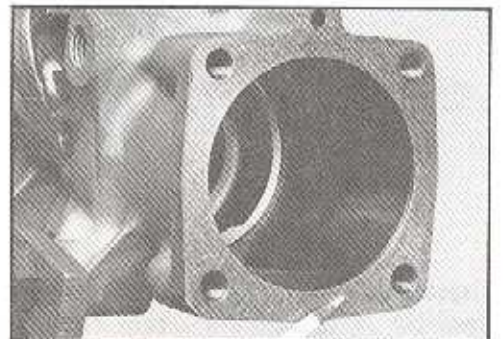

Figure 98
6. Inspect the housing (47) faces for nicks that would prevent proper sealing. Replace the gear housing if these nicks are present and cannot be easily removed with a finetoothed flat file without changing the dimensional characteristics. SEE FIGURE 98.